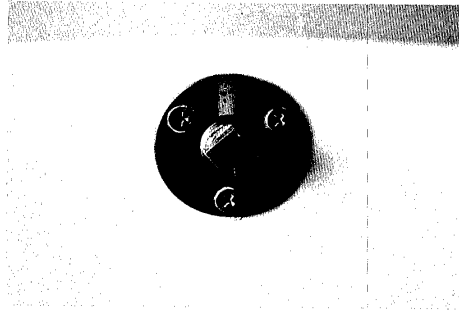

Figure 29
2. Install the hull drain plug. See figure 29.